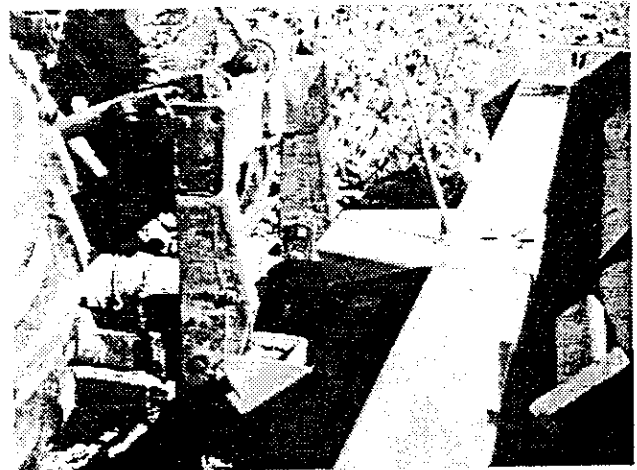

Figure B-3: A Semi-Mounted (two-point) Unit (18' or 20') with the required quick hitch.
1. Figure B-3 shows a semi-mounted unit (18' or 20') with required quick hitch.